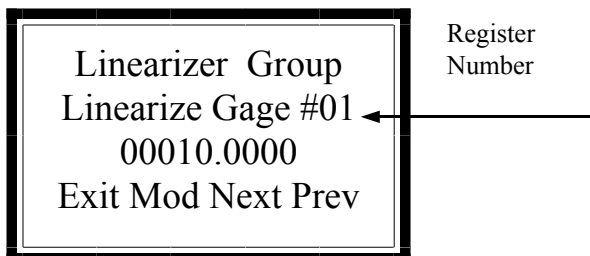

Figure 11c: Selecting the Register.
4) Select the desired Register by pressing the Next / Prev keys. See Figure 11c. Once the desired Register is selected press the MODify key to change the value.